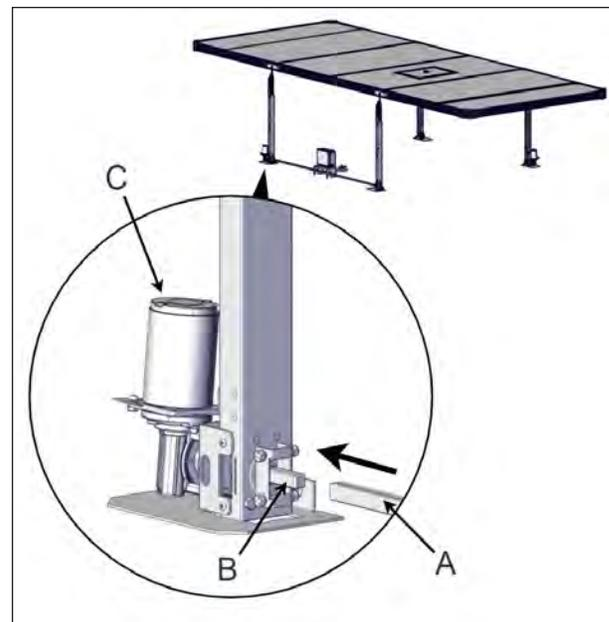

FIGURE 93: DRIVE SHAFT INSTALLATION ON THE MOTOR SIDE
2. Slide the drive shaft over the square shaft of one motor-side jack see Figure 93.